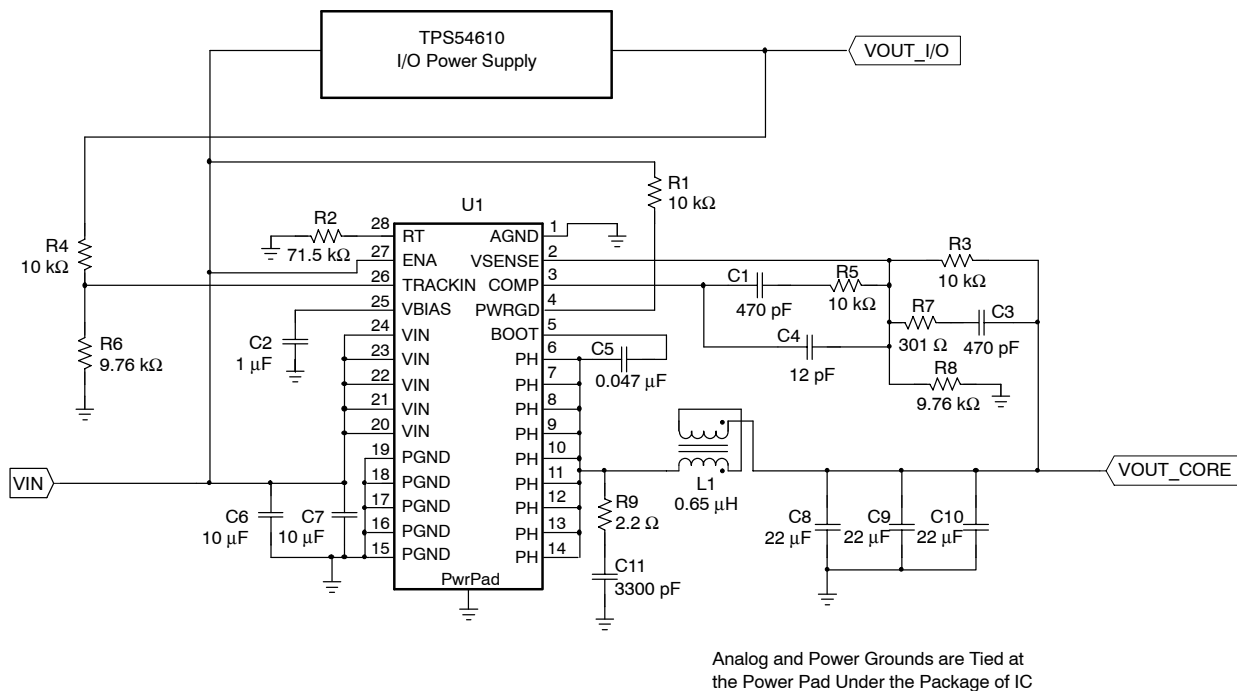

Figure 9. Application Circuit
⁽³⁾ Specified by the circuit used in Figure 9
(1) Specified by design
(2) Static resistive loads only
(3) Specified by the circuit used in Figure 9
(4) Matched MOSFETs low-side r_{DS(on)} production tested, high-side r_{DS(on)} specified by design
Figure 9 shows the schematic diagram for a typical TPS54680 application. The TPS54680 (U1) can provide greater than 6 A of output current at a nominal output voltage of 1.8 V. For proper thermal performance, the exposed thermal PowerPAD underneath the integrated circuit package must be soldered to the printed-circuit